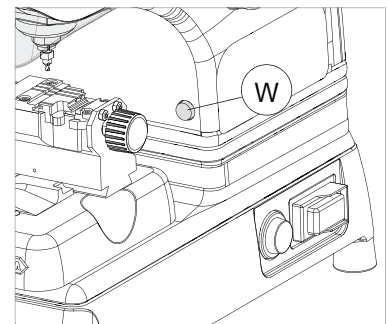

Fig. 15
- 3) To turn off the motor release the lever (D) or turn off one of the 2 switches (P) or (Q).
There is a warning light (W) on the right-hand part of the machine front (behind the clamps unit) (Fig. 15). When the cutter motor is on the warning light flashes.